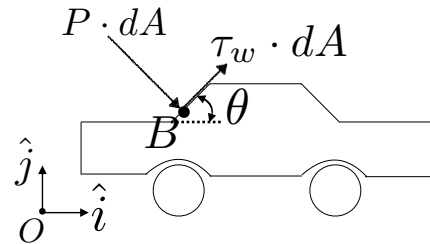

Figure 3: Pressure and Shear Forces Acting at a Point B on a Car
7. A scaled down model of a car was tested in a wind tunnel to study the forces exerted on its windshield. In this problem we consider the readings from a sensor located at a point on its windshield. The direction of the pressure force $P \cdot dA$ and the shear force $\tau_w \cdot dA$ acting at the point B are shown in Figure 3.